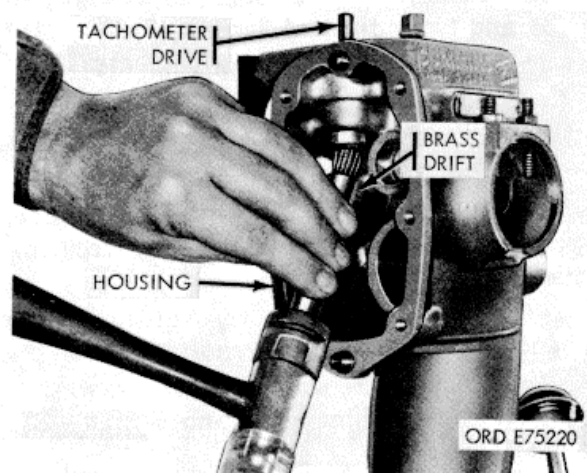

Figure 3-77. Tachometer drive assembly-removal/installation.
(c) Using a brass drift, as shown in figure 3-77, drive the assembled shaft (6), bearing